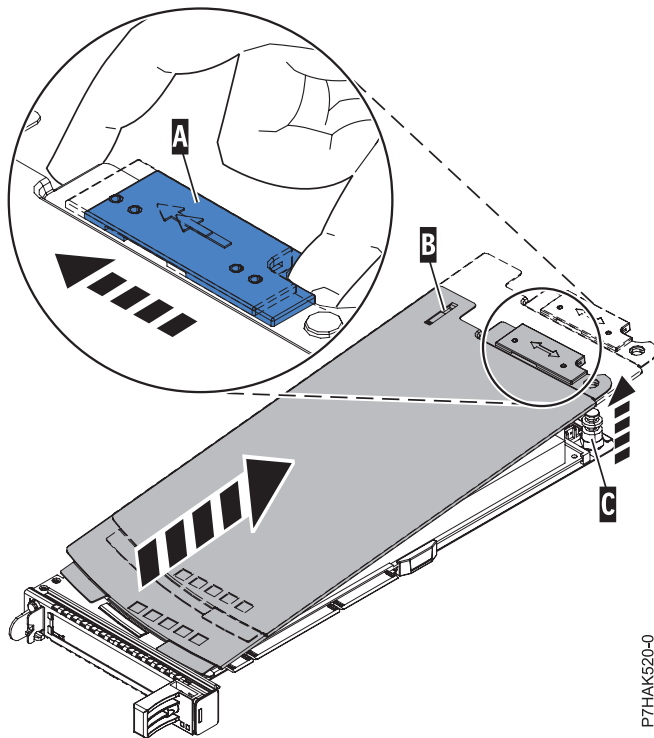

Figure 21. Removing the PCIe adapter cassette cover
- a. Slide the cover latch (A) to disengage it from the pivot pin (C) as shown in Figure 21 on page 20.
- b. Lift the cover (B) off of the pivot pin (C).